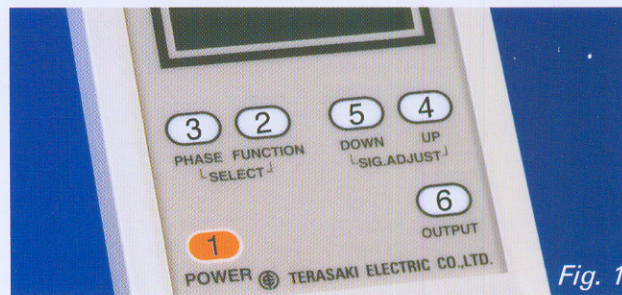

Fig. 1
The function of each switch is described below: Fig. 1 illustrates the front panel of the checker. The number preceding each switch corresponds to the number indicated in this figure.
This switch is used to select a measurement mode. Pressing this pushbutton switch toggles in the above order and each measurement mode is indicated both on the LCD screen and corresponding LEDs on the OCR checker. (fig. 1).
- I. Press the SELECT FUNCTION ( ② in Fig.1) and select "ST P.U" on the LCD and with the LED.
- II. Using the SELECT PHASE switch ( ③ in Fig.1) select the phase to be measured.
- III. Press the OUTPUT switch ( ⑥ in Fig. 1) to output the voltage.
- IV. Press the SIG. ADJUST UP ( ④ in Fig.1 ) to increase the voltage until tripping occurs. When tripping occurs, the LED changes from a blinking state to an illumination state and "TRIP" appears on the LCD indicating the voltage value at which tripping has occurred. The output is automatically cut with the trip signal.
- I. Press the SELECT FUNCTION switch ( ② in Fig. 1 ) and select "ST T" on the LCD and with the LED.
- II. Using the SELECT PHASE switch ( ③ in Fig. 1 ) select the phase to be measured.
- III. Press the SIG. ADJUST UP/DOWN switch ( ④ and ⑤ in Fig. 1) to adjust the output voltage value at 1.2 times the setting value.
- IV. Press the OUTPUT switch ( ⑥ in Fig. 1) to output voltage for tripping. When tripping occurs, the LED changes from a blinking state to an illumination state and "TRIP" appears on the LCD indicating the time delay at which tripping has occurred. The output is automatically cut with the trip signal.